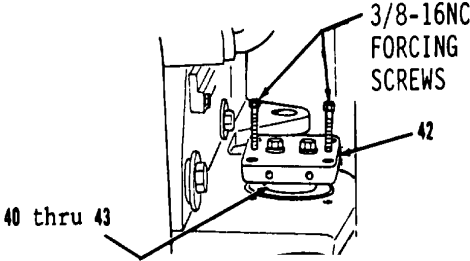

Figure 16-10.
- 20. Install two 3/8-16NC forcing screws in plate (42) and remove items 40 thru 43 as an assembly (Figure 16-10).